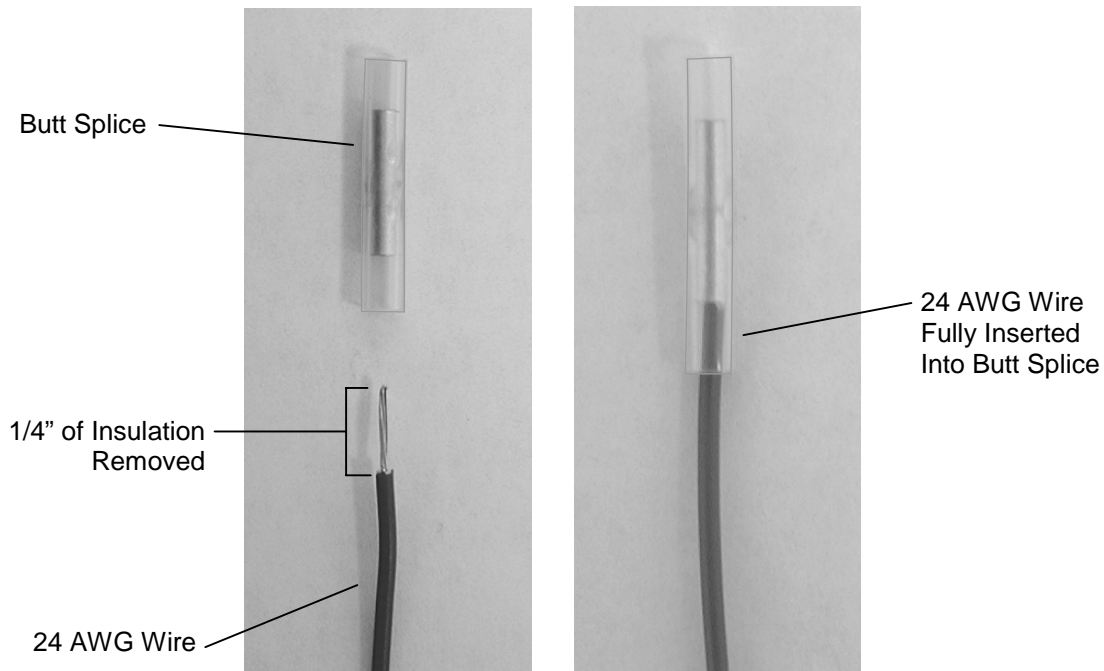

Figure 7-19 Fan Wire and Butt Splice
5. Fully insert the end of the red wire into a Butt Splice (Panduit Part Number BSN22-C or equivalent) and use a wire crimper to securely attach the Butt Splice to the wire. See Figure 7-19.
9. Fully insert the end of the red wire into the Butt Splice that is attached to the red wire of the Fan Assembly. Use a wire crimper to secure the wire in the Butt Splice. See Figure 7-19.